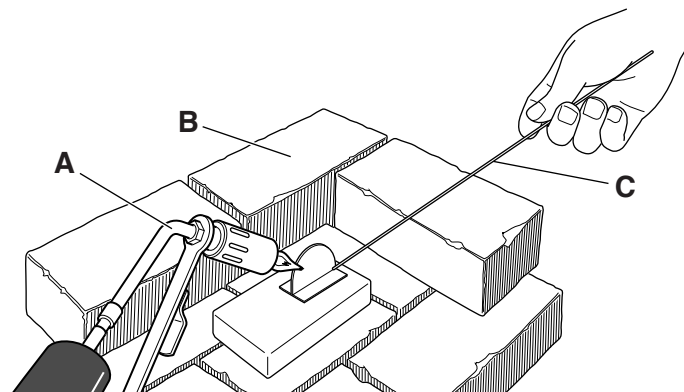

Fig. 9
- 10 Fig. 9 shows metal being hard (silver) soldered. Name the items of equipment **A**, **B** and **C** in Fig. 9.